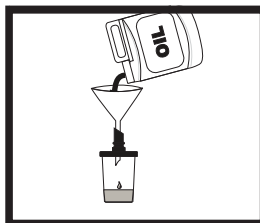

Fig. 3
- Use disposable funnel, fill reservoir 2/3rds full (Fig. 3).